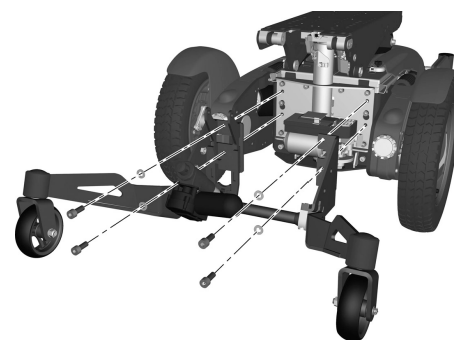

Figure 400. Support wheel unit.
4. Remove the support wheel unit, it's attached with four screws and washers. See fig. 400.